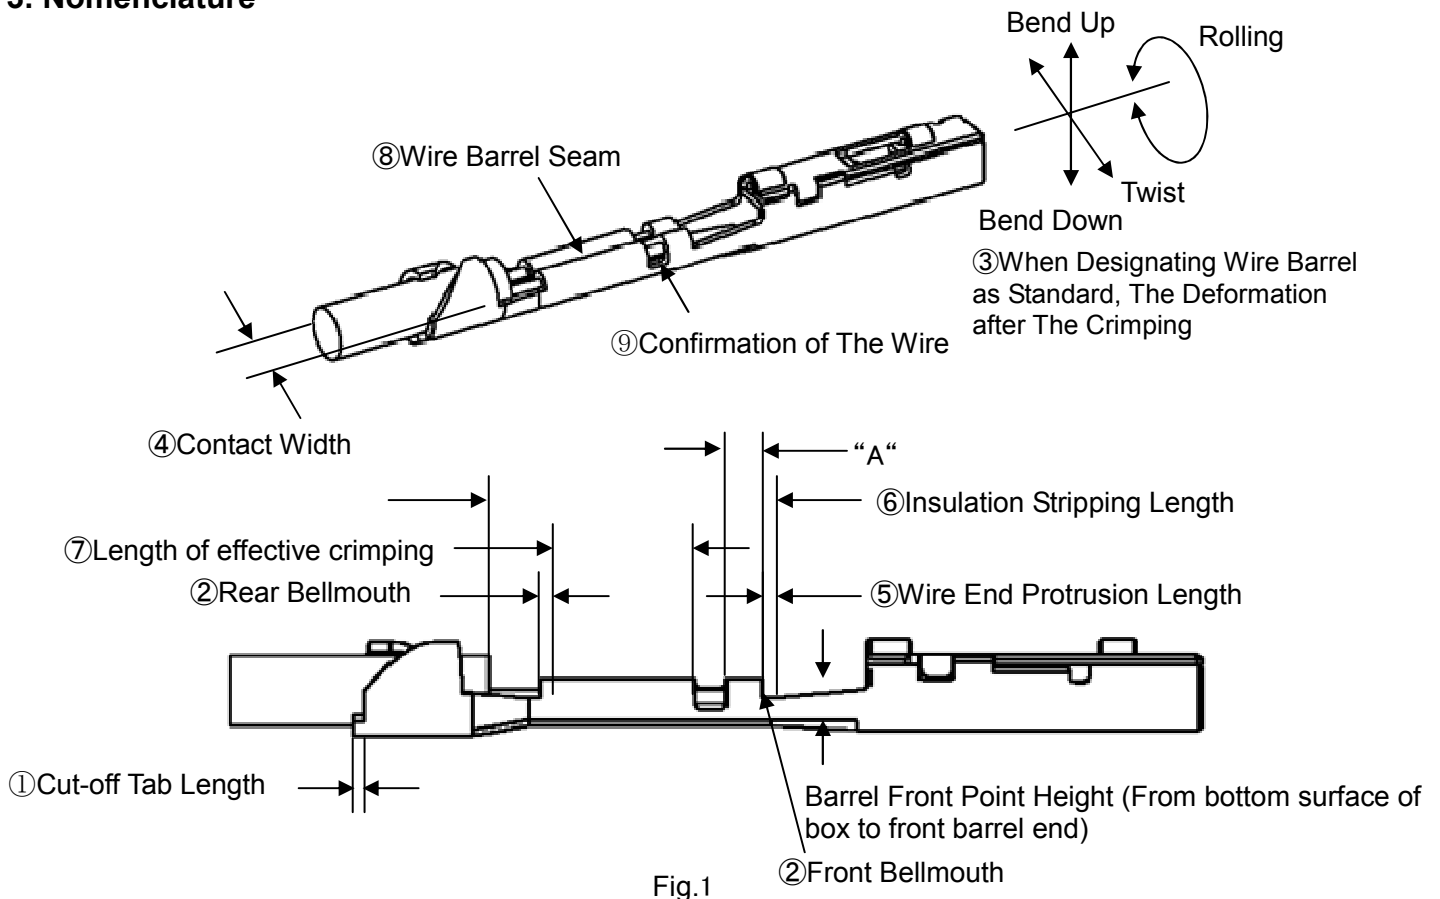

Fig.1
| 1                   | Cut-off Tab Length   | 0.25mm Max.  |           | Fig.1-① |
| 2                   | Bellmouth  | Front  | 0mm Max.  | Fig.1-② |
| 3                   | When Designating Wire Barrel as Standard, The Deformation after The Crimping | Bend   | ±3° Max.  | Fig.1-③ |
| 4                   | Contact Width after Crimping   | 2.35mm Max.  |           | Fig.1-④ |
| 5                   | Wire End Protrusion Length   | Thing that 0mm or less and wire end is put in "A" area of Fig.1. |           | Fig.1-⑤ |
| 6                   | Insulation Stripping Length (Before the Crimping) (2)             | 4.8~5.3mm  |           | Fig.1-⑥ |
| 7                   | Length of effective crimping (1)                                  | 2.0mm  |           | Fig.1-⑦ |
| 8                   | Wire Barrel Seam   | Seam must be closed.(No strand looses out of the seam)       |           | Fig.1-⑧ |
| 9                   | Insulated coating advanced position  | You can verify the wire with visual inspection the wire barrel.  |           | Fig.1-⑨ |
- (1) Crimping height has gone into standard in the designated range
- (2) Insulation coating of the wire which you use is smooth. When crimping do not use any which have the damage and deformation on the insulated coating surface